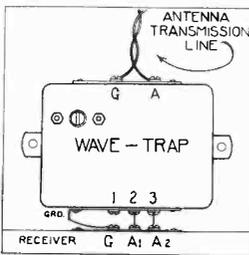

Figure 4—"RK-40A" Antenna
**RCA "RK-40A" Antenna.**—As mentioned in a foregoing paragraph, this antenna system can be used only with RCA Victor receivers equipped with the built-in antenna coupler, such receivers being identified by a three-terminal board on the radio chassis. Mount the Wave-Trap with the links connecting No. 2 and No. 3 terminals on the trap to the "A1" and "A2" terminals respectively on the radio chassis. From the transmission line (lead-in) of the antenna system, connect the black wire to the "A" terminal on the trap and the red wire to the adjacent "C" terminal. Attach the external ground soldering lug to the "C" terminal on the receiver. (See Fig. 4.)